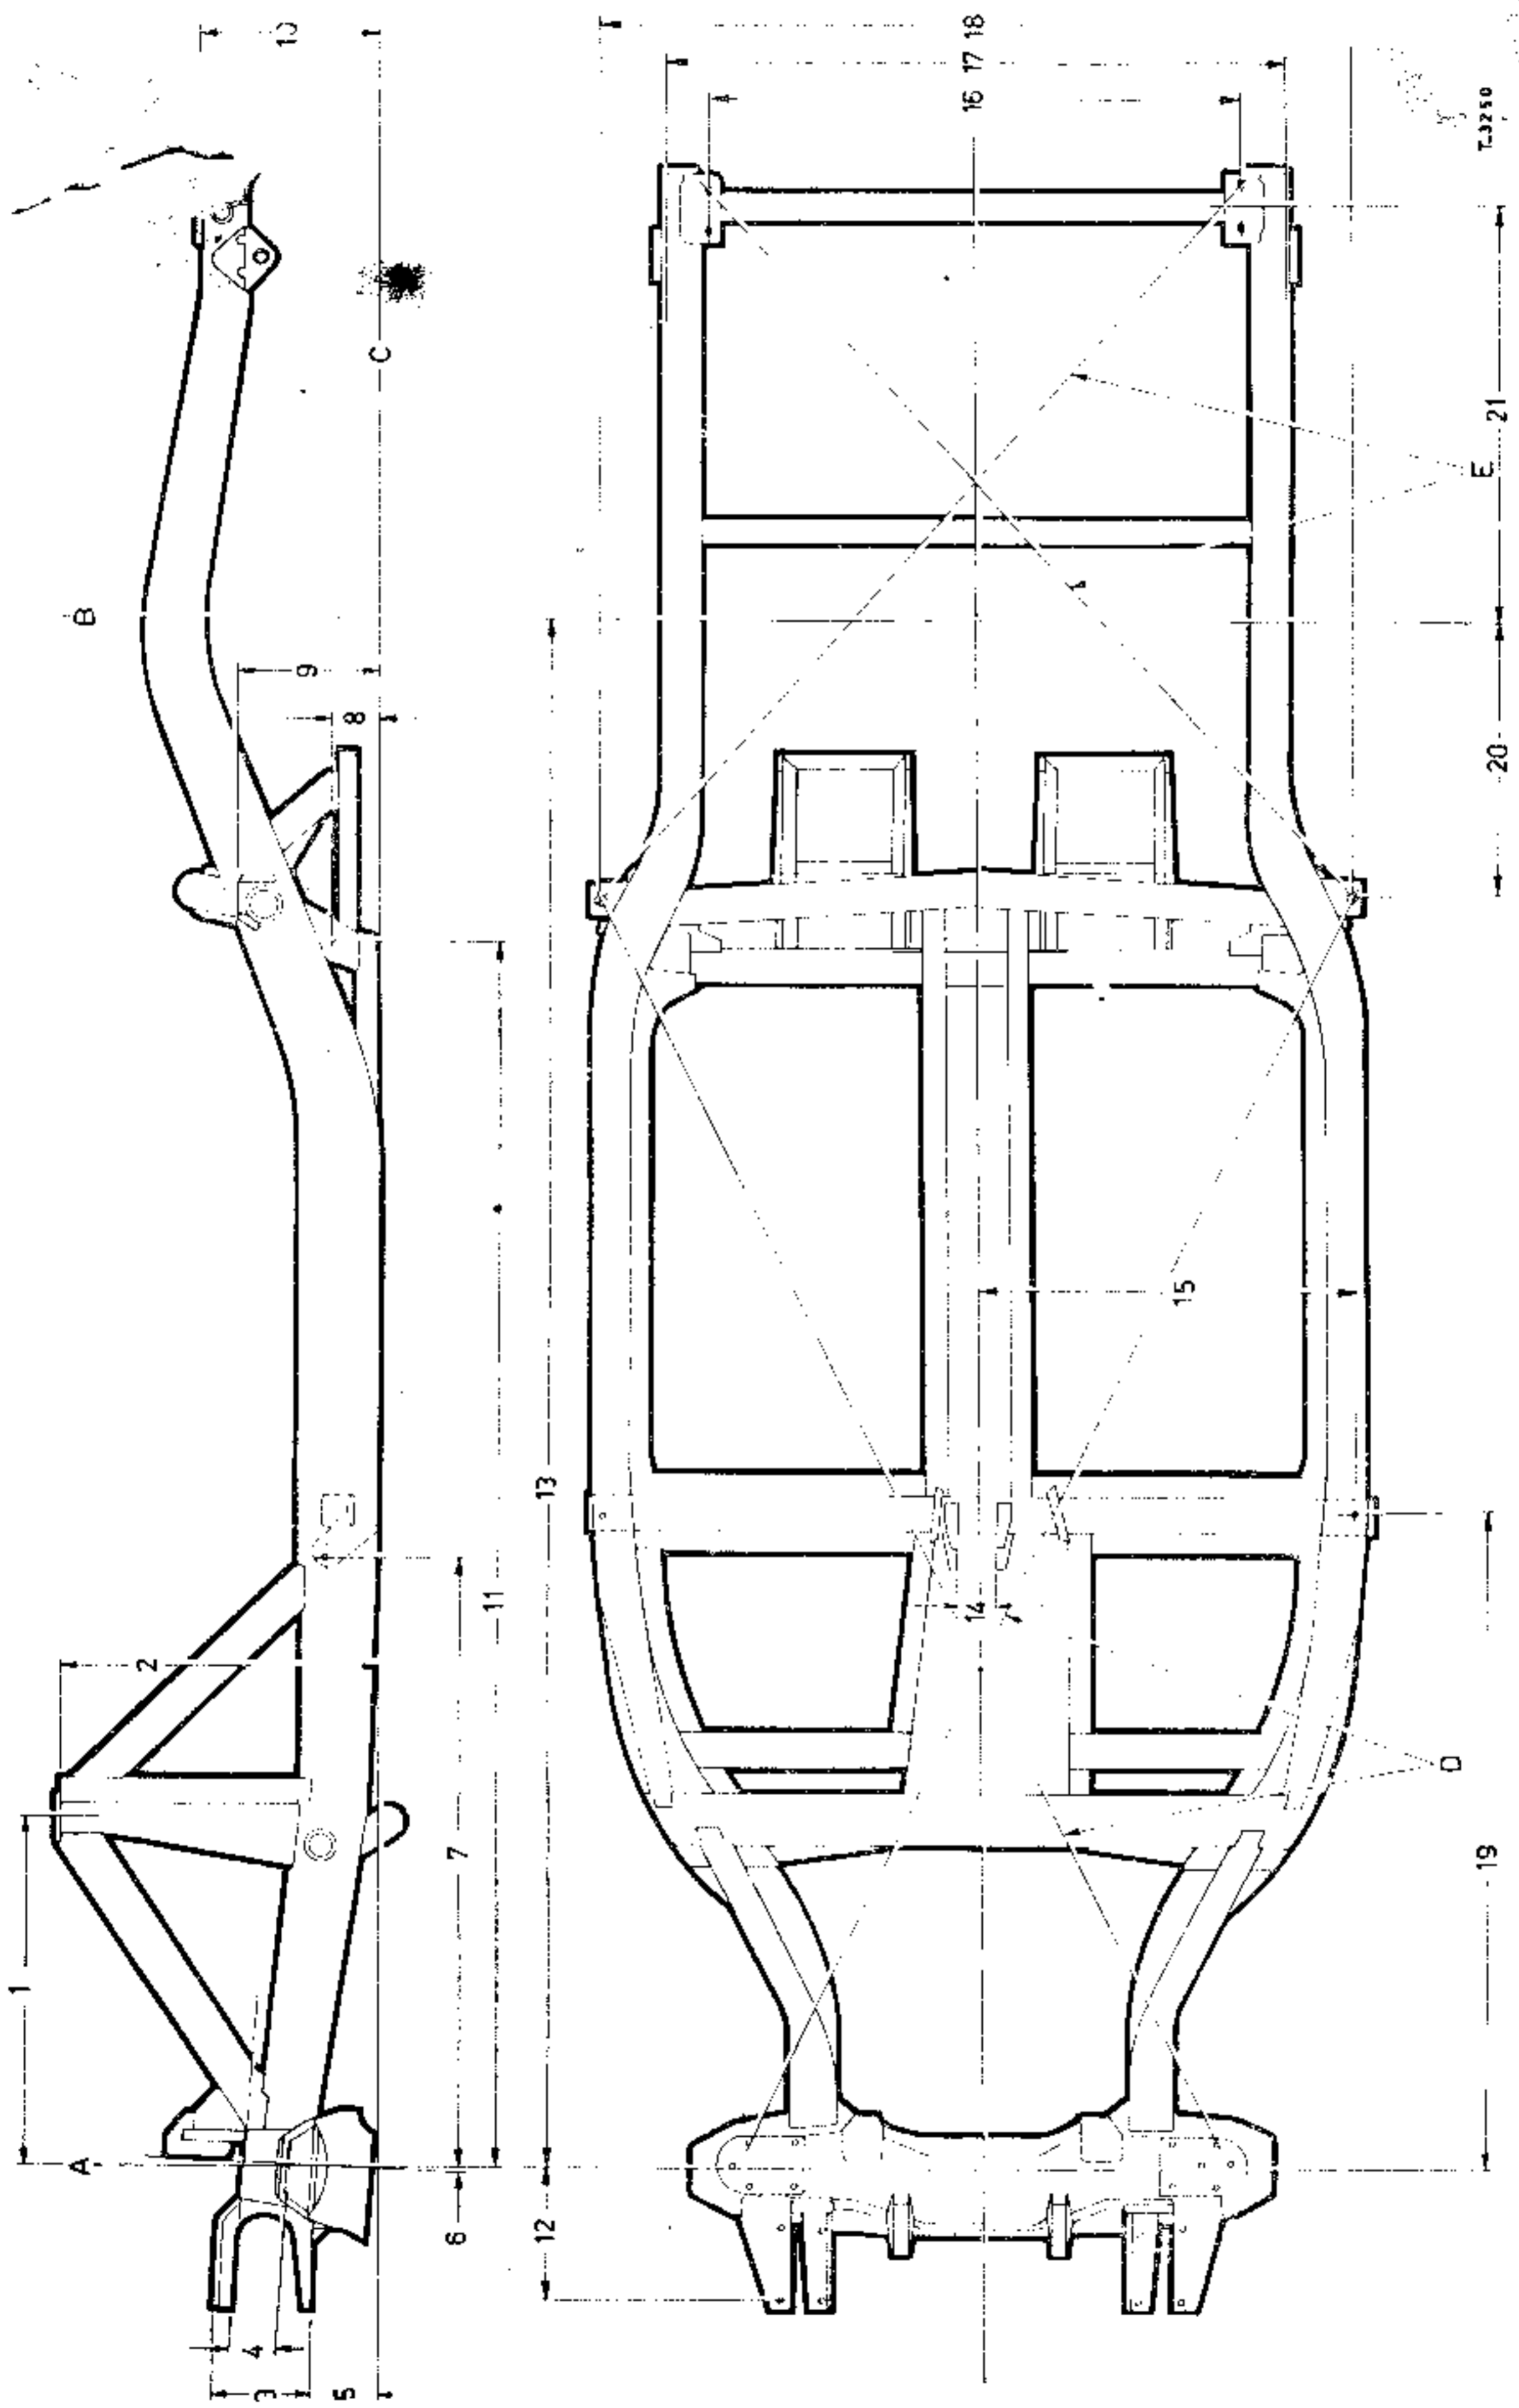

Fig. 28. Chassis frame, dimensions
**Chassis:** All-steel chassis, consisting of box-section side-members and tubular and box section cross-members, are welded together. The front suspension mounting platform and the box section scuttle structure stiffen the frame at the front end, thus ensuring a unit with good torsional rigidity. For chassis frame dimensions refer to Figure 28.
### *Key to Fig. 28*